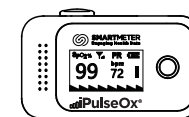
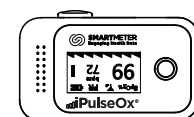

Figure 7
Figure 8
- 1.Press the "POWER/FUNCTION" button to power on the device. Press it again to rotate the display orientation, as shown in **Figure 7** and **Figure 8**.